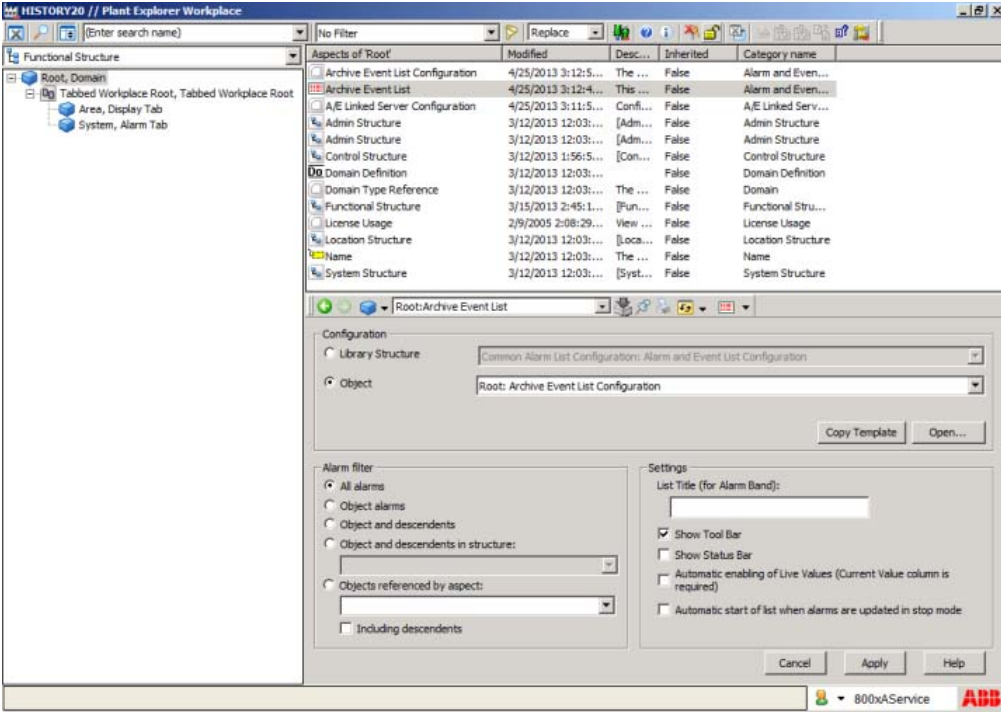

Figure 252. Alarm and Event List aspect - Config View
4. Click **Apply**. Alarm and Event List Configuration aspect is created and appears in the Aspect pane. For example, Archive Event List Configuration is created as shown in Figure 252.